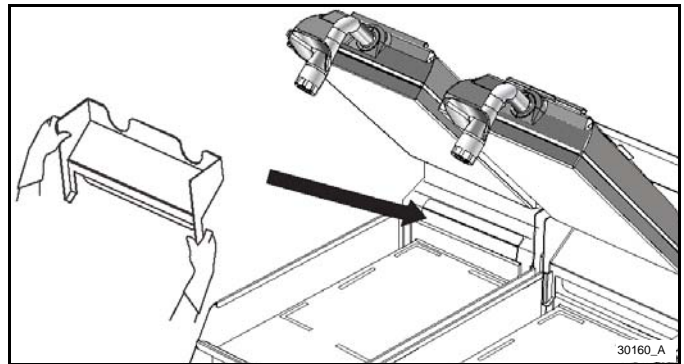

Figure-131
40. Reinstall the rear grease guard after it has been washed and rinsed. See Figure-131.